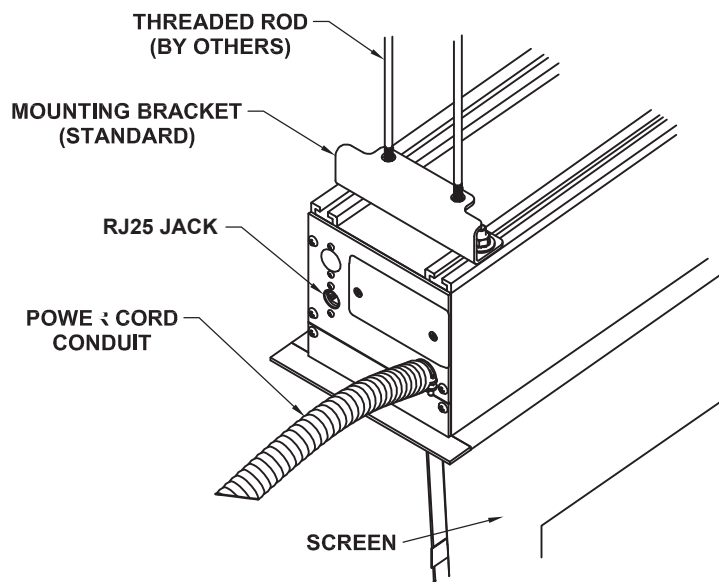

Figure 1: Overhead View Isometric
3. Fasten the mounting brackets to the threaded rods or beams above the ceiling. (Note: The unit is usually suspended, as shown in Figure 1, but it can be secured to the ceiling using bolts or other appropriate fasteners as well.)